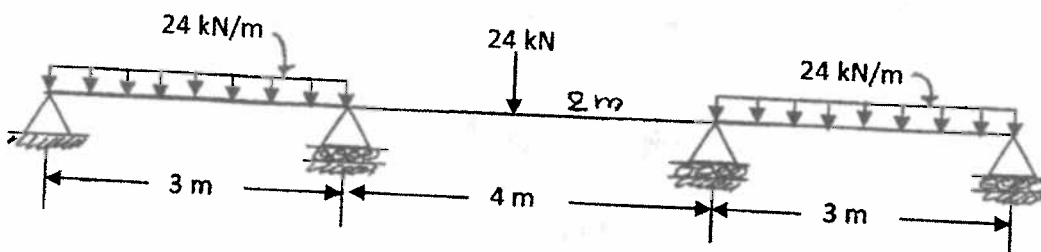

Fig. 4
- 13. Analyse the continuous beam shown in fig. 4, using Kani's method and draw the shear force diagram.